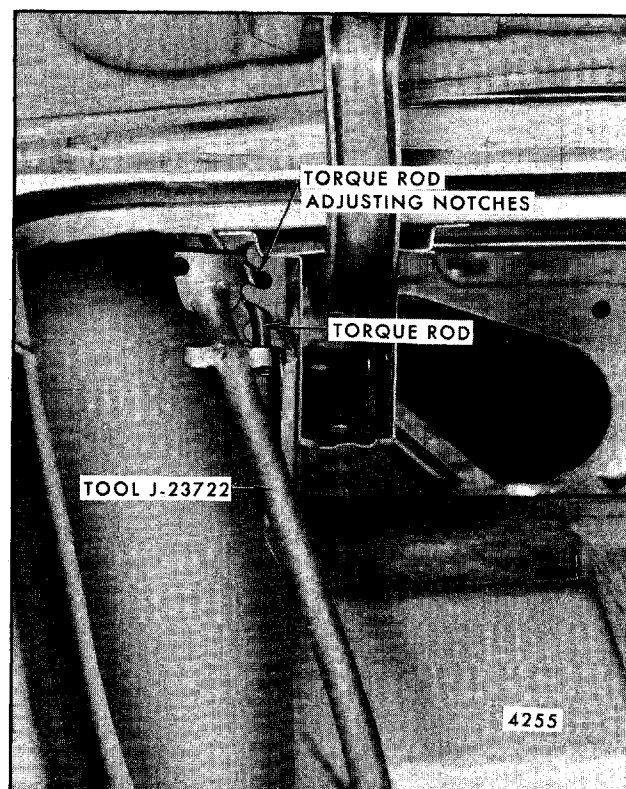

Fig. 7-45-Rear Compartment Torque Rod Adjustment - Cadillac E
- b. On Cadillac E styles, use tool J-23722 or equivalent (Fig. 7-45).